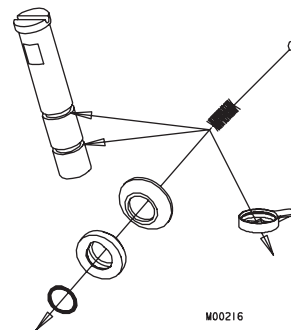

Figure 7-7 Clean O-ring grooves, seal and nozzle with brush.
- c. The beater shaft cup seals, plastic washers, and O-rings. The plunger O-ring grooves and nozzles, as shown in figure 7-7.